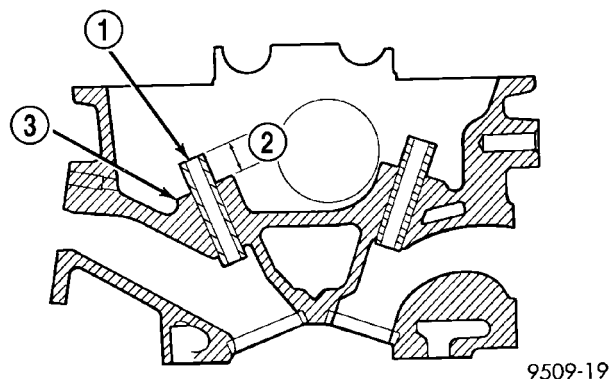

Fig. 17 Valve Guide Height
(5) Check valve guide height (Fig. 17).